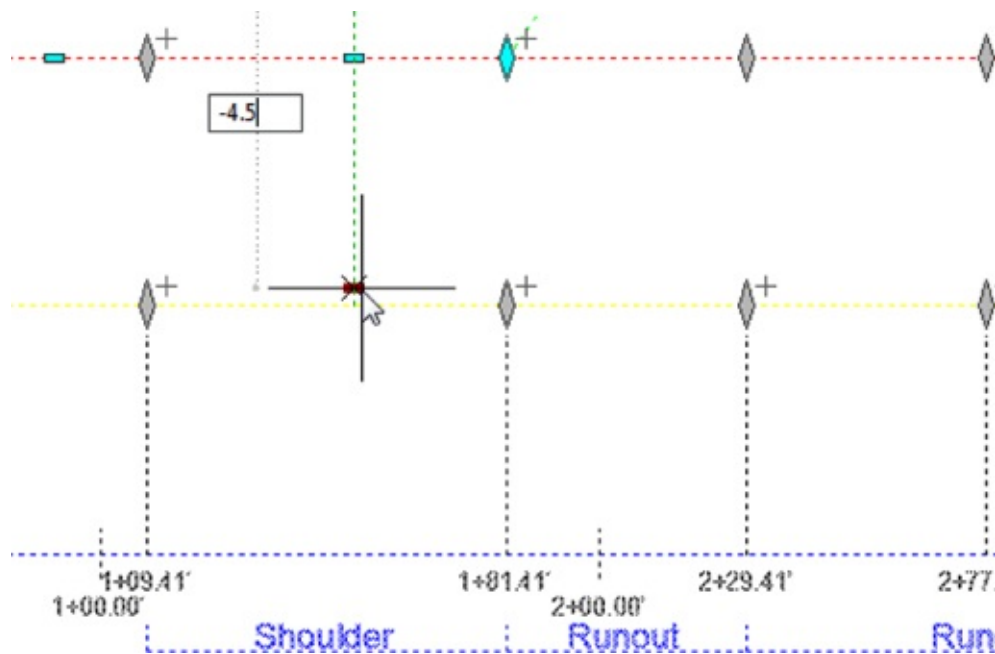

Figure 11.29 Changing the slope using grips and dynamic input
12. In the dynamic input box, key-in **-4.5**, as shown in Figure 11.29, and then press Enter.